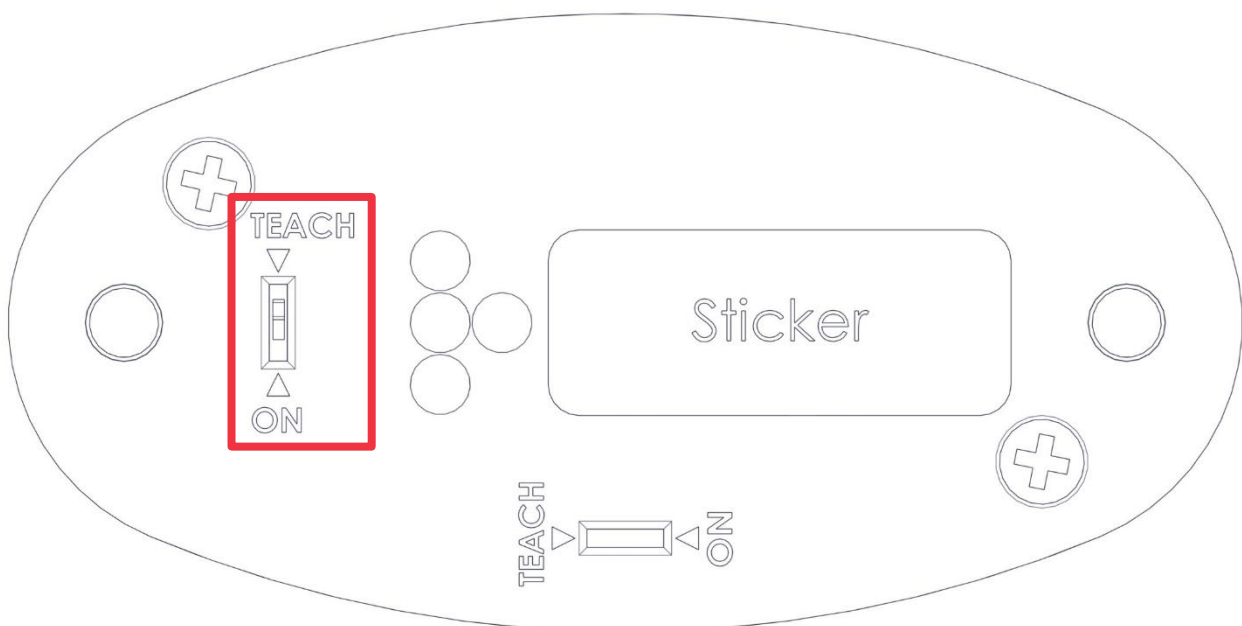

Figure 11. ON / TEACH switch located behind product version 1 buttons
2. If programming version 1 buttons, set the buttons to TEACH mode (see Figure 11).
- c. Mark the programmed buttons with their channel. If programming version 1 buttons, set them to ON mode (see Figure 11).